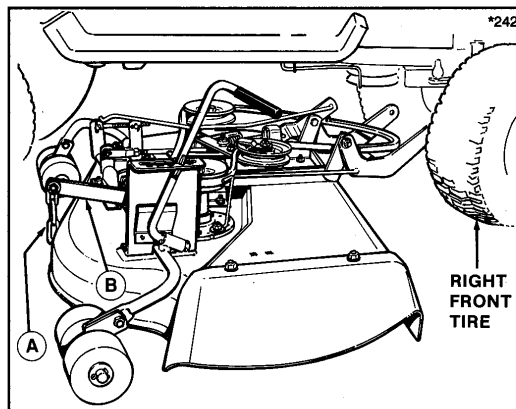
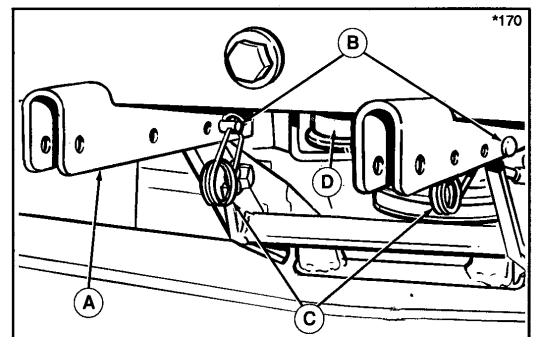
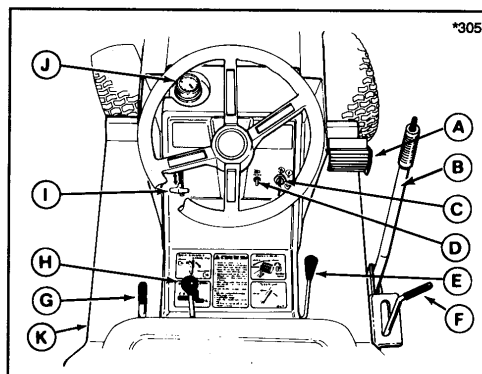

Figure 1. Installing 36" Mower
Figure 2. Mower Hitch Arms
Figure 8. Tractor & Mower Controls
NOTE: The lift chain (A, figure 1) should be connected to the rear hole in lift arm (B) unless optional large lift arm (B, figure 8) is used to raise mower. With large lift lever, connect chain in forward hole.
3. Place the mower in lowest cutting position and slide it under the tractor, aligning arms (C, figure 1) with tractor hitch (A, figure 2).
- Lift up front of mower and insert pins (B, figure 2) to attach mower hitch arms to tractor hitch (A). (You can insert a pry bar under front edge of deck to raise.) Connect the clips (C) into the pins.
Refer to figure 8 for an explanation of tractor and mower controls.